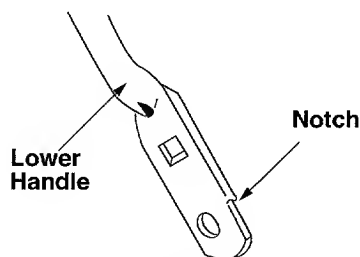

Figure 15
- Turn the lower handle around so the notch on the bottom of the lower handle is facing forward as shown in Figure 15. Reassemble, placing the bottom holes in the handle over the weld pins in the handle mounting bracket.